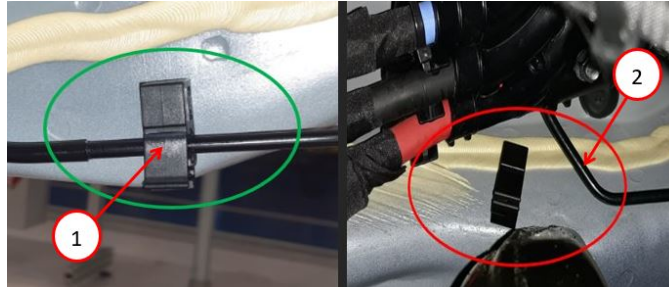

Fig. 1
2. Check that the left front rigid brake pipe is routing into the body strut clip Fig. 1.